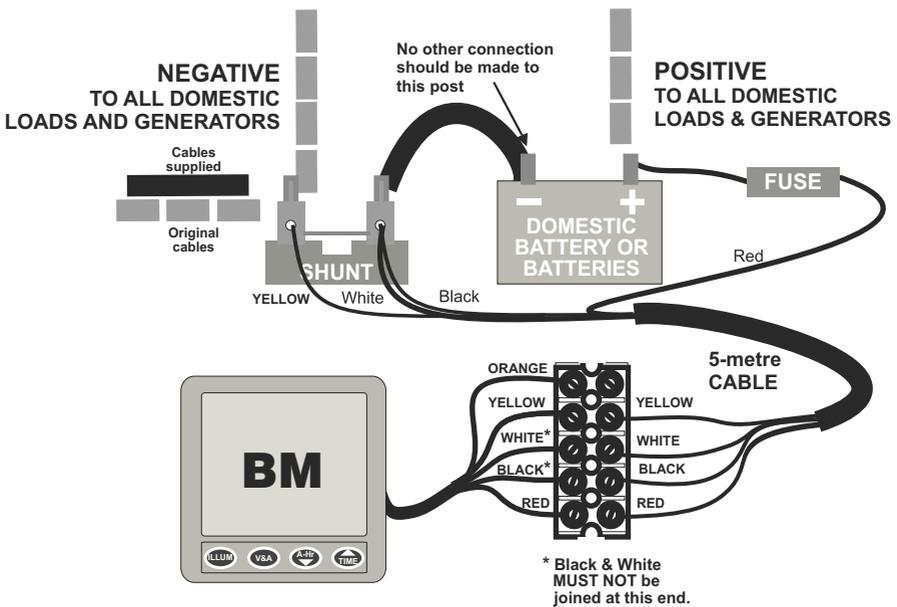

Figure 1 - Domestic battery only
- 5 Connect the shunt cable to the display unit as shown on Figure 1, below, using the terminal block supplied. Be careful to connect the wires exactly as shown, noting that the black and white wires are joined at the shunt connection, and are connected separately at the instrument end of the cable.
- 9 Disconnect the NEGATIVE terminal from the battery and connect to the shunt as shown on Figure 1. Ensure it is positioned where it cannot come into electrical contact with other parts, and ensure it will remain dry and free from contaminants. Also note that the shunt can get warm when heavy currents flow, so ensure it is secured in a position where its heat cannot affect other parts. TAKE CARE TO AVOID OVER-TIGHTENING THE CONNECTION TO THE SHUNT.
- 10 Connect the Black and White wires and Yellow wire to the shunt as shown on Figure 1.